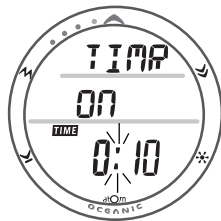

Fig. 137 - FREE DIVE CDT STATUS (ON/RUNNING)
- Pressing and releasing the S button momentarily (< 2 seconds) will toggle between ON and OFF. If a Time has been set, a toggle from OFF to ON will start the CD TIMER indicated by the colon flashing (Fig. 137).